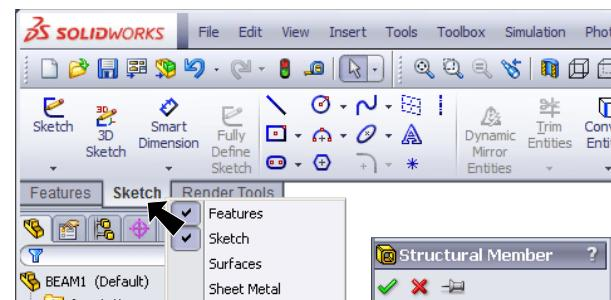

Fig. 11
Step 1. Right click Sketch  on the Command Manager toolbar and select Weldments, Fig. 11.